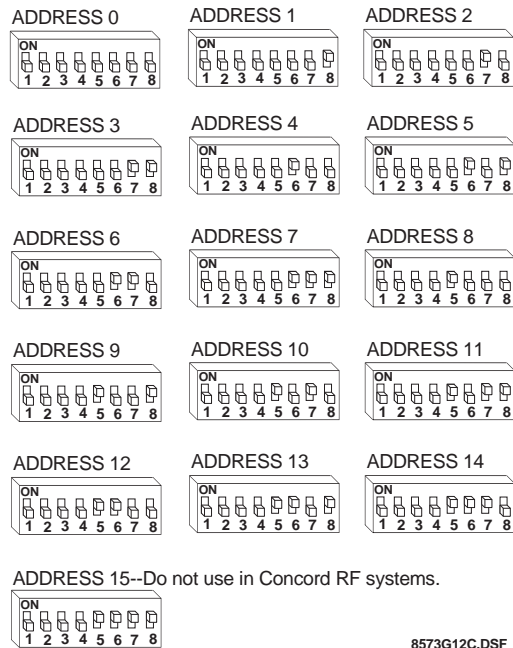

Figure 12. Unit Number DIP Switch Settings
Locate the DIP switches on the module circuit board (see Figure 1) and set them to the desired unit number (0–15) before applying power (see Figure 12).
2. Change the DIP switch setting on the module (see Figure 12). Remember, the setting must be different from all other bus devices.